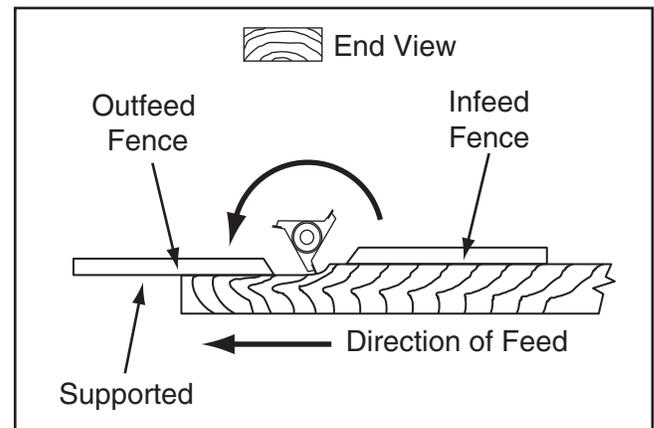

Figure 32. Support workpiece as it is fed through the cut.
6. When cutter comes to complete stop, adjust outfeed fence using technique used in **Steps 1–2** to support new profiled edge (see **Figure 32**).